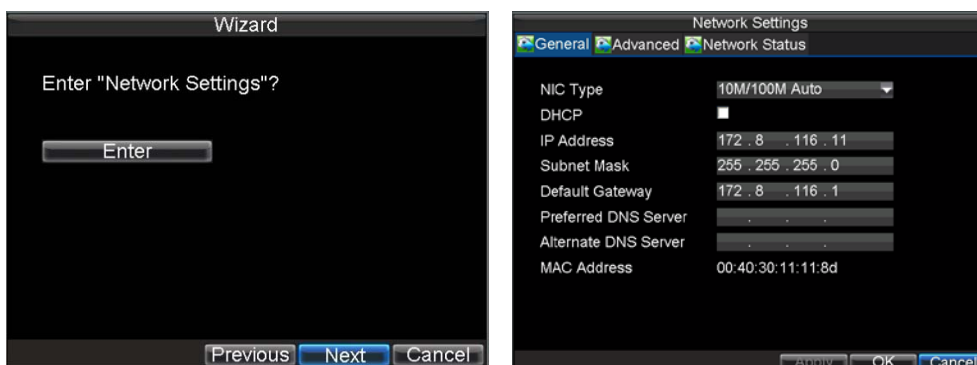

Figure10. Network Settings
21. Click *Next* button to access the **Network Settings** dialog box, shown in Figure 10.